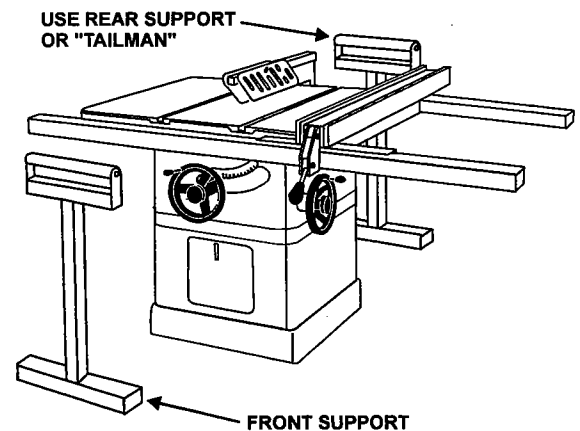

FIGURE 16
6. When ripping long boards, use a support at the front of the table and a support or "tailman" at the rear as shown in Figure 16.